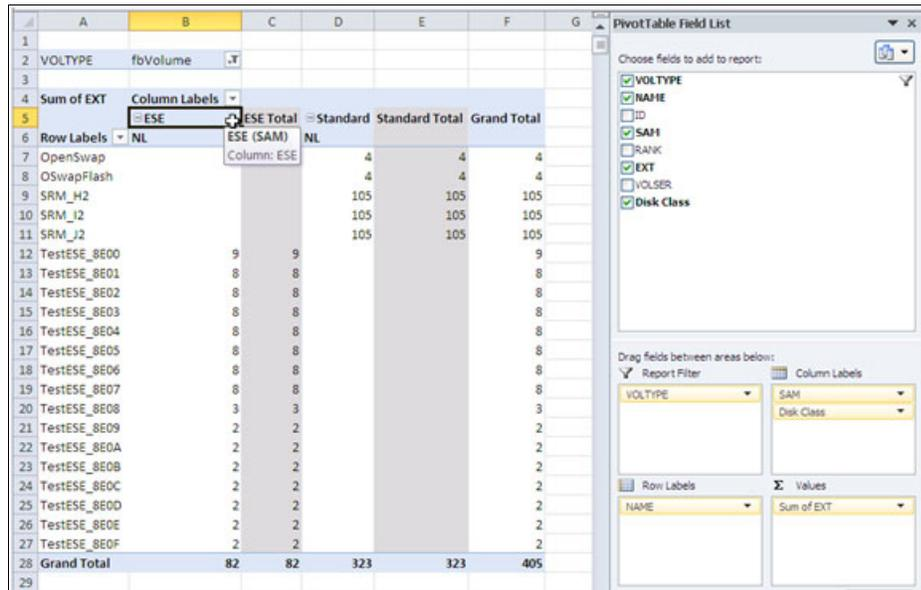

Figure 18 Sample data manipulation in Excel
2. Add the **Name** field to the pivot table and display the **Sum of EXT**. Add **VOLTYPE** as a report filter and add **Disk Class** as a legend field (column label). Other fields can be added as needed, such as adding **SAM** (Storage Allocation Method) as a filter or a legend field (column label). The example pivot table that is shown in Figure 18 displays the allocation totals for the FB volumes by disk class and allocation method.